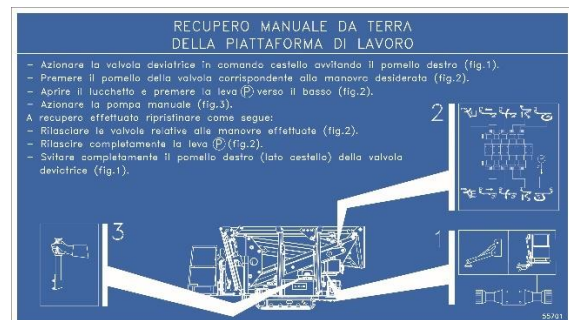

fig. 4.4.2
1. remove the electro valve casing on the turret (**pos. 2 fig. 4.4.2**)
2. Remove the electro valve guard on the turret (*fig. 4.4.2*)